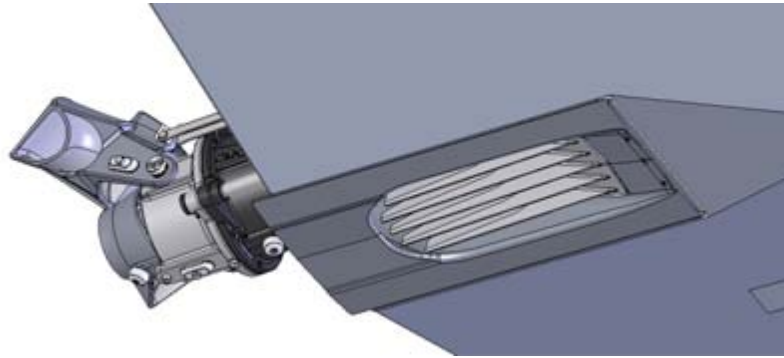

Figure 35. Checking the grass rake for blockages
2. Check the grass rake (figure 35).